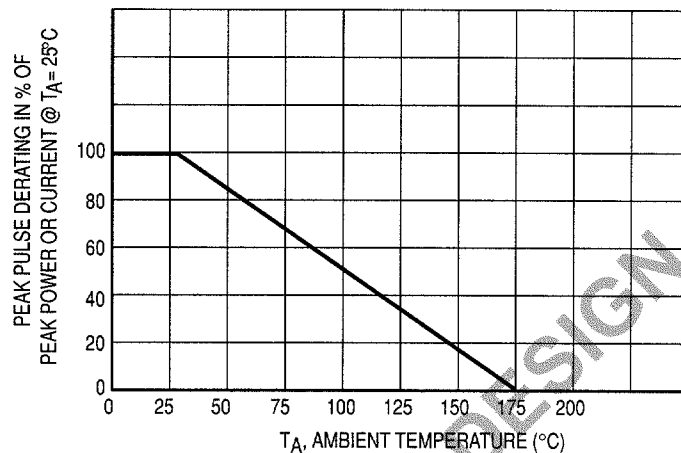

Figure 2. Pulse Derating Curve
** 1/2 sine wave (or equivalent square wave), $PW = 8.3\text{ ms}$, duty cycle = 4 pulses per minute maximum.*** A transient suppressor is normally selected according to the maximum reverse stand-off voltage (V_{RWM}), which should be equal to or greater than the dc or continuous peak operating voltage level. $\dagger$ Surge current waveform per Figure 5 and derate per Figure 2. $\dagger\dagger$ V_{BR} measured at pulse test current I_T at an ambient temperature of 25°C .# V_F applies to Non-C suffix devices only.**CLIPPER BIDIRECTIONAL DEVICES**